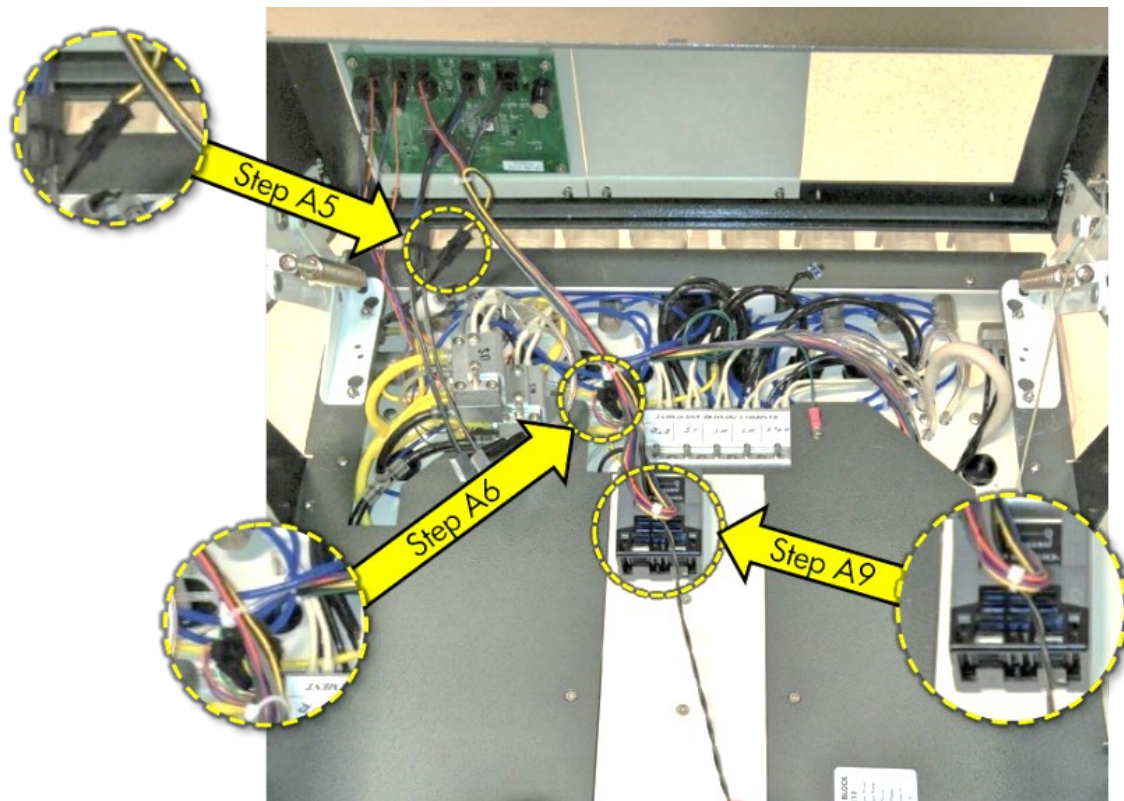
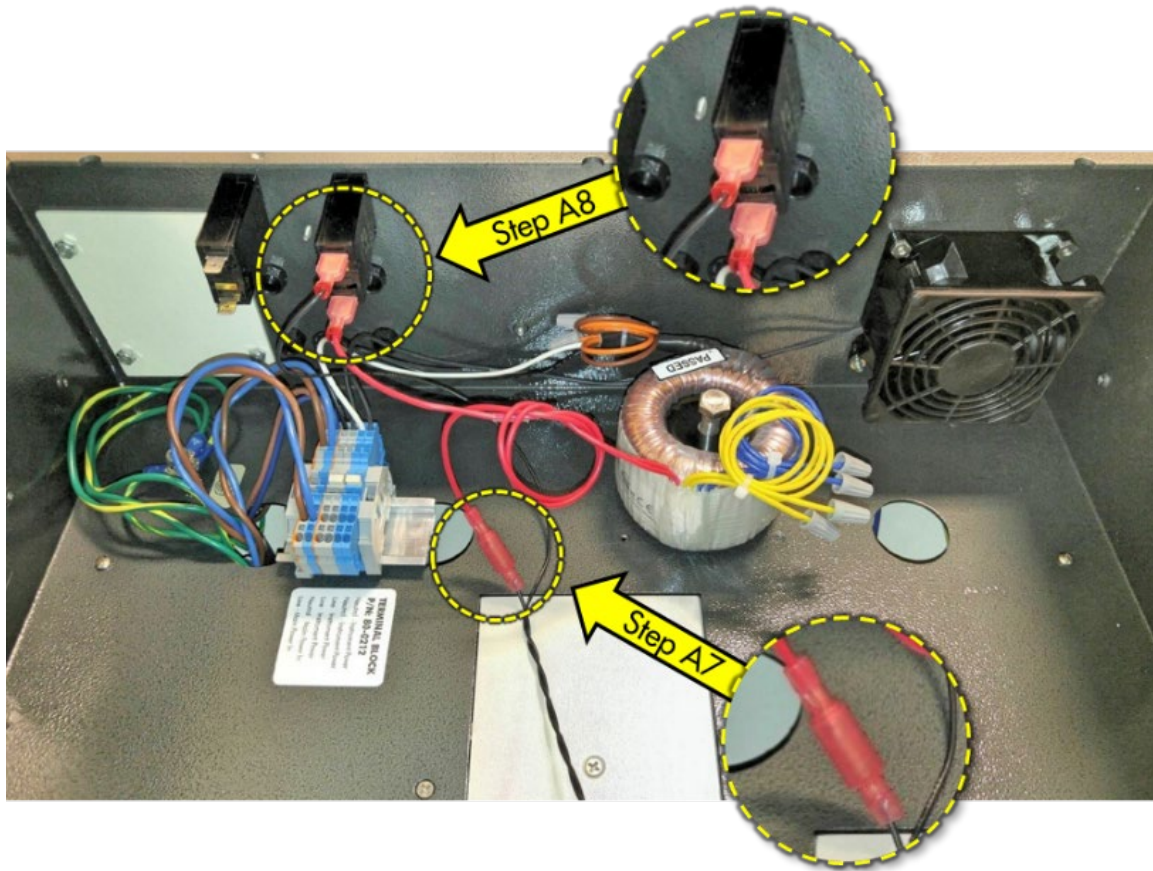

Fig. A3
Fig. A4
- A5. Disconnect yellow/black Molex Connector from N/O A/E Switch. **(Fig. A3)**
- A6. Disconnect Wire Harness Molex Connector from Newtron Module. **(Fig. A3)**
- A7. Disconnect Bullet Connector, black from Transformer red wire. **(Fig. A4)**
- A8. Disconnect Spoon Connector on circuit breaker. **(Fig. A4)**
- A9. Remove Newtron Module by lifting up from Velcro secured to Baseplate. **(Fig. A3)**
- B9. Connect; secure Bullet Connectors. (**Fig. A3, Fig. A4**) Mount Newtron Module to baseplate using pre-installed Velcro.